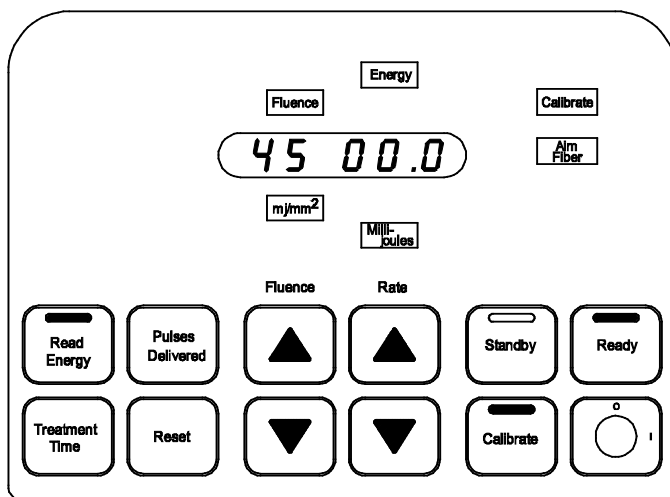

Figure 6
6. The yellow Ready status on the top of the control panel, **Aim Fiber**, **Energy**, **Millijoules**, **Calibrate**, **Calibrate** button, and **Ready** button lights are illuminated. The display window shows 00.0 on the three rightmost digits. (Figure 6)